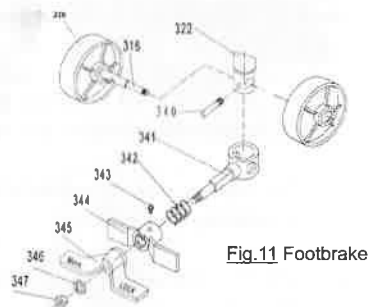

Fig.11 Footbrake
To apply the brake step on the "LOCK" side of the Brake plate (fig. 11, pos.345) until its angle is 45°. To release the brake step on the "MOVE" side of the Brake plate (fig. 11, pos.345) until it is in horizontal position.